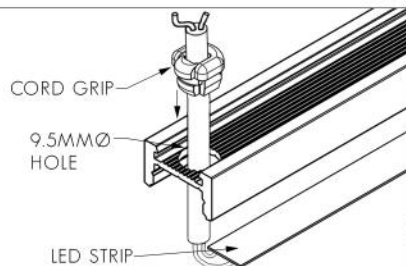

FIG. 3 - MAKE ELECTRICAL CONNECTION
4. MAKE ELECTRICAL CONNECTION: CONNECT LED STRIP TAILS TO LED DRIVER (SEE FIG. 3 IF SUPPLIED WITH MALE/FEMALE CONNECTORS).